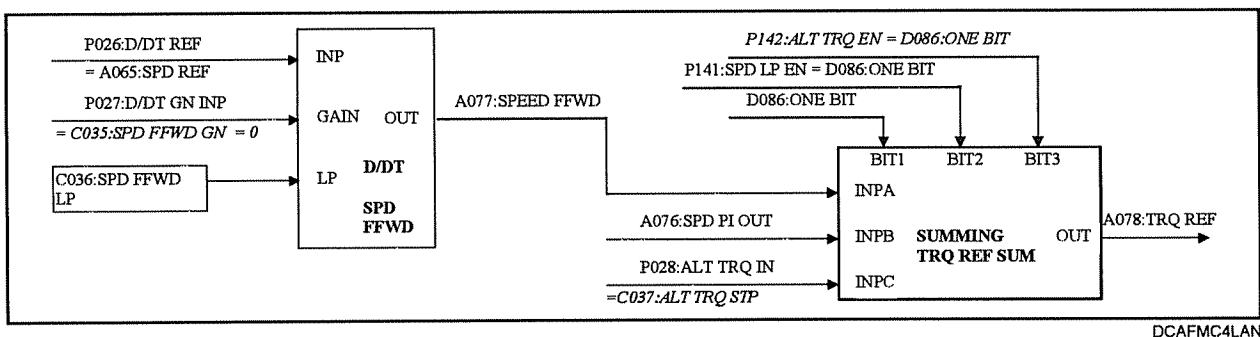
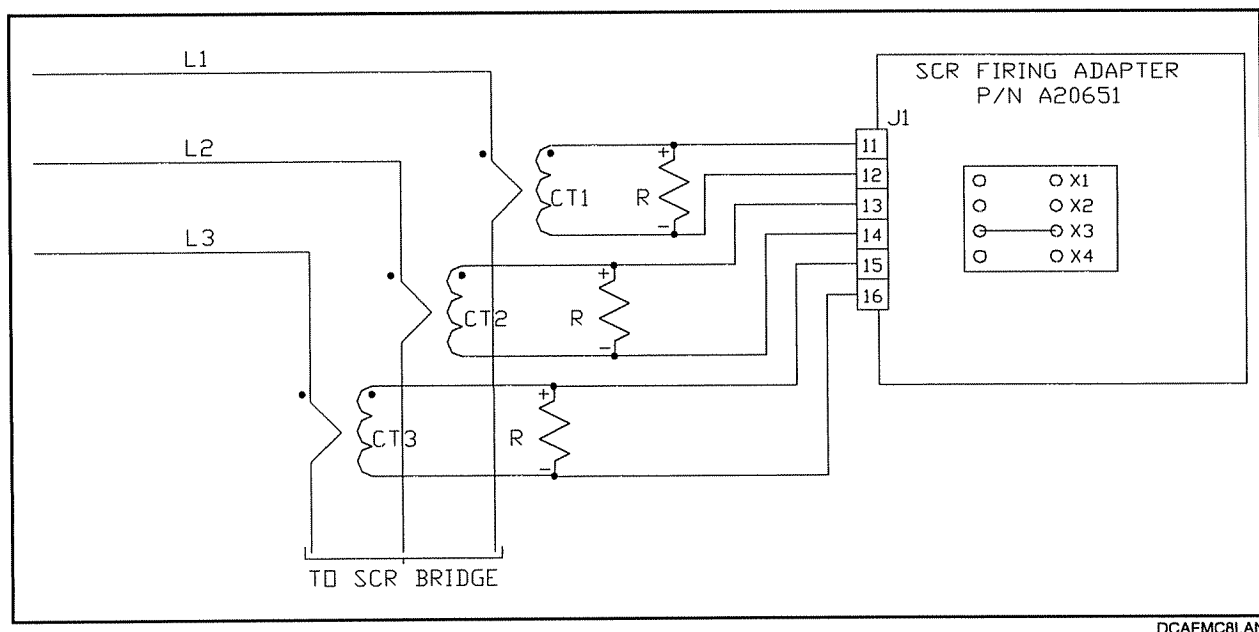
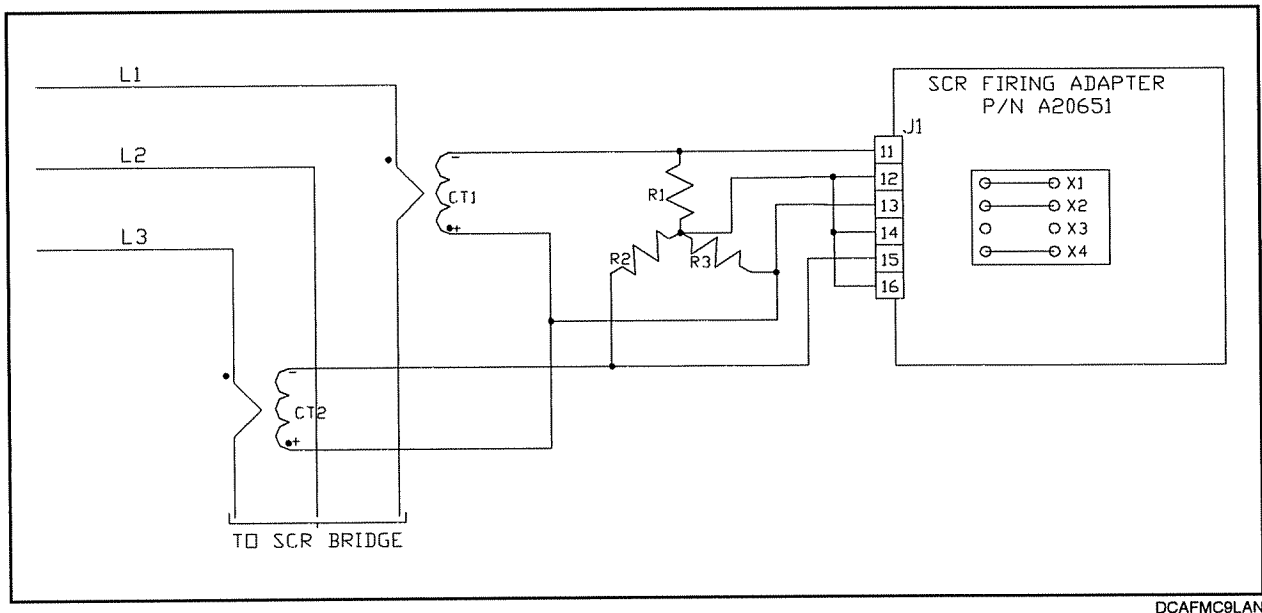

FIGURE 3-4. 692002.V21 SOFTWARE BLOCK EXCERPT
FIGURE 3-8. FIRING ADAPTER 3-CT CONFIGURATION DIAGRAM
FIGURE 3-9. FIRING ADAPTER 2-CT CONFIGURATION DIAGRAM
- 18) The 3-CT feedback configuration wiring diagram and jumper settings for the A20651 SCR Firing Adapter are shown in Figure 3-8. Check the polarity of the feedback pulses across each burden resistor with the polarities indicated for each resistor in Figure 3-8. Example: Positive pulses (Figure 3-4) should be observed for a burden resistor when the scope probe is connected to the resistor + and scope ground to the resistor -. Confirm these pulses at J1 of the SCR Firing Adapter. The burden resistor polarities are most easily identified here.
- 21) The 2-CT feedback configuration wiring diagram and jumper settings for the A20651 SCR Firing Adapter are shown in Figure 3-9. Check the polarity of the feedback pulses across each burden resistor with the polarities indicated for each CT with the polarities indicated for each CT in Figure 3-8. Example: Positive pulses (Figure 3-4) should be observed for a CT when the scope probe is connected to the CT + and scope ground to the CT -. Confirm these pulses at J1 of the SCR Firing Adapter, points (13-11) for CT1 and J1(13-15) for CT2. The C polarities are most easily identified here.